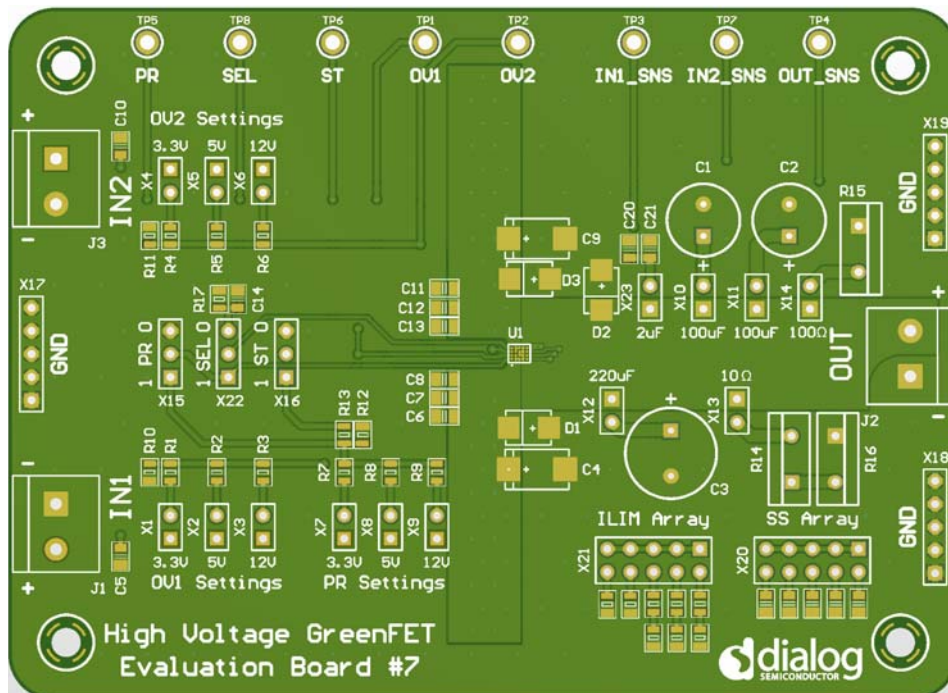

Figure 28. SLG59H1403C Evaluation Board
1. Since the IN[1,2] and OUT pins dissipate most of the heat generated during high-load current operation, it is highly recommended to make power traces as short, direct, and wide as possible. A good practice is to make power traces with an absolute minimum widths of 15 mils (0.381 mm) per Ampere. A representative layout, shown in Figure 28, illustrates proper techniques for heat to transfer as efficiently as possible out of the device;
A High Voltage GreenFET Evaluation Board for SLG59H1403C is designed according to the statements above and is illustrated on Figure 28. Please note that evaluation board has IN[1,2]_Sense and OUT_Sense pads. They cannot carry high currents and dedicated only for $R_{DS(ON)[1,2]}$ evaluation.